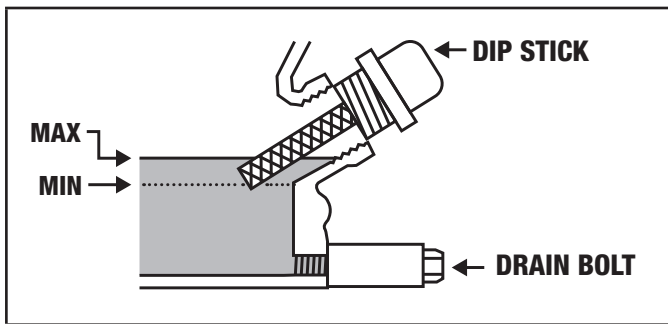

Figure 20
3. Remove the drain bolt and drain the oil into the container by slightly tipping the engine toward the oil cap/dipstick (Fig. 20).